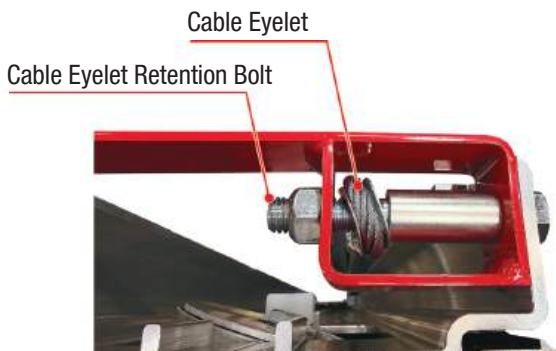

Figure 4-20: Cable Eyelet and Retention Bolt
28. Move the eyelet end of the cable up to the top of the front mast. Attach the eyelet of cable to the cable latch bracket using two 3/4" wrenches and cable eyelet retention bolt and hardware (see Figure 4-20).